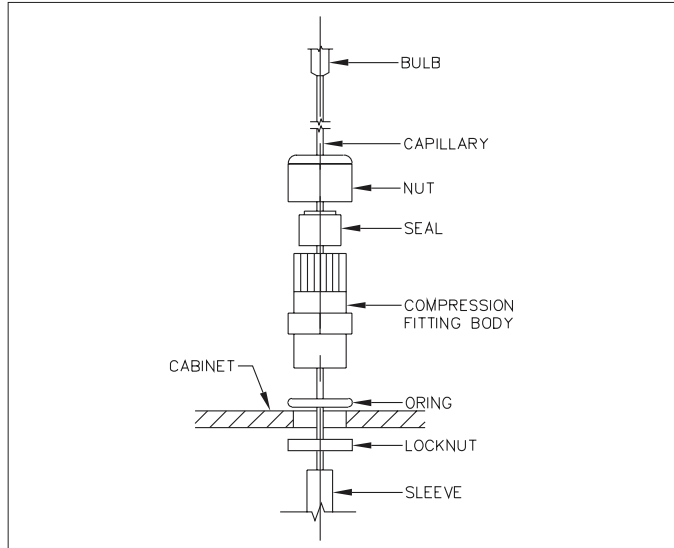

Figure 8
3. Remove compression nut from the fitting (see Figure 8). Remove seal from fitting. Remove fitting from capillary.
9. Place compression fitting body over capillary. Install seal on capillary and insert seal into body of fitting (see Figure 8).